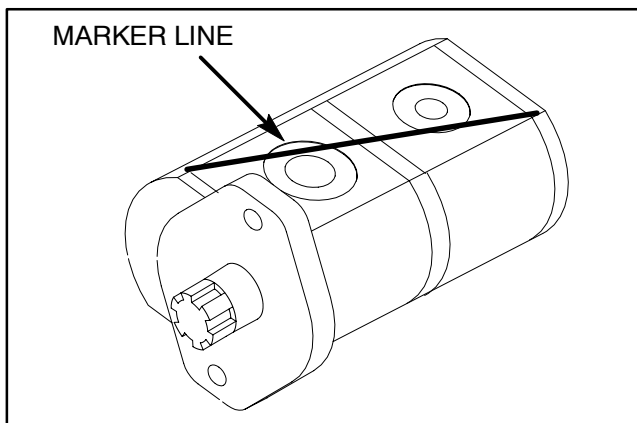

Figure 57
2. Use a marker to make a **diagonal** line across the front plate, front body, adapter plate, rear body and back plate for assembly purposes (Fig. 57).
NOTE: When assembling the pump, check the marker line on each part to make sure the parts are properly aligned during assembly (Fig. 57).
10. Install locating dowels in front body. Align marker line on the front body and front plate (Fig. 57).
14. Place adapter plate on assembly using marker line for proper location (Fig. 57). Firm hand pressure should be sufficient to engage the dowels.